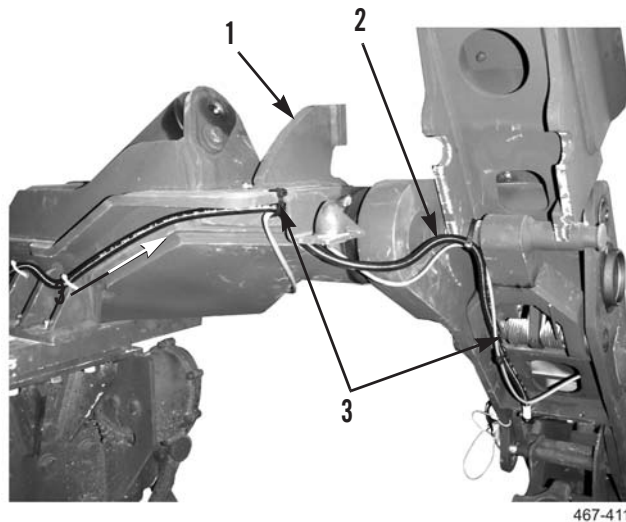

Figure 44. Secure Harnesses to Slider Assembly.
9. Install new tiedown straps (Figure 44, Item 3) securing twistlock harnesses (Figure 44, Item 2) to slider assembly (Figure 44, Item 1). Roll any excess harness and secure to frame with tiedown straps.